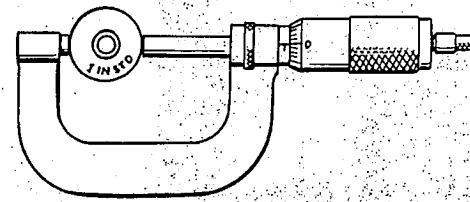

Fig. 87 — Checking Micrometer With Standard
2. Check micrometers periodically with a master gauge or standard, to assure accuracy (Fig. 87).